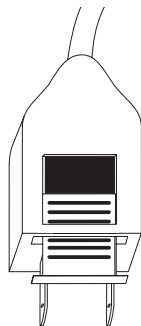

Figure 2.
2. Slide the door on top of the plug towards the blades. Figure 2.